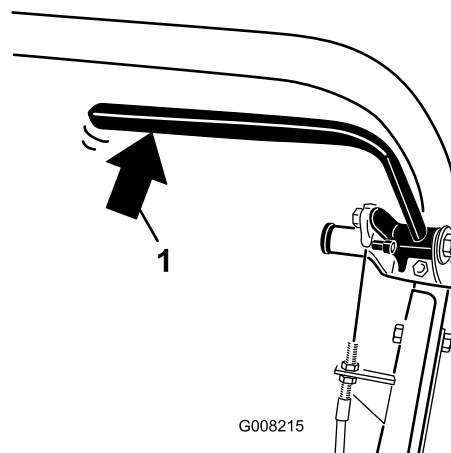

Figure 38
2. Using a spring scale, press rearward on the service-brake lever (Figure 38). The parking brake should release when a force of 13.5 to 18 kg (30 to 40 lb) is attained. If the parking brake releases before 13.5 to 18 kg (30 to 40 lb) of force is attained, adjust the brake cable.